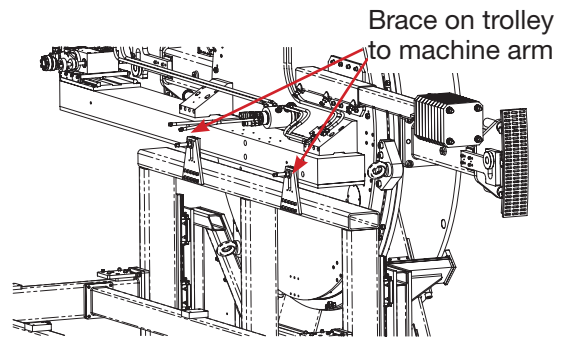

Figure 10: Secure machine to trolley
3. Whilst still supporting the machine with a crane/overhead winch secure the machine to the trolley by engaging the 'Machine Top Brace'. These bolt to the milling arm. See figure 10.